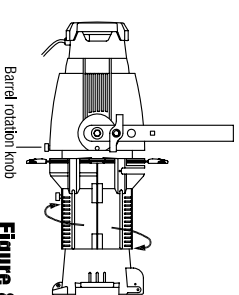

Figure 8
1. Loosen the barrel rotation knob directly behind the shutters on the underside of the reflector housing (Figure 8). Do not remove the barrel rotation knob.